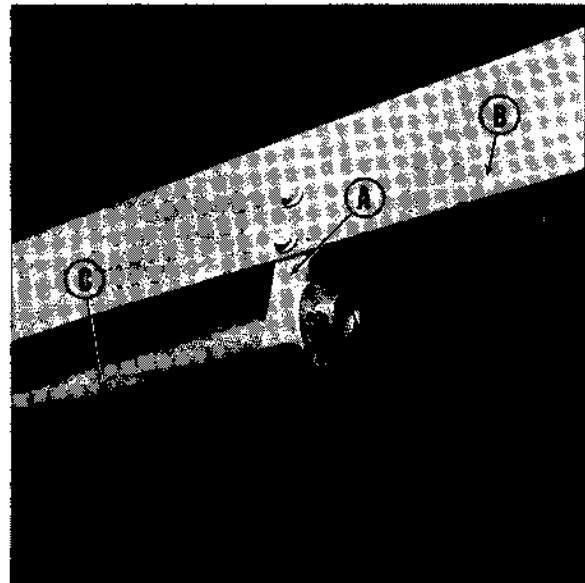

Fig. 47
15. Install either LH or RH safety cut-off support angles to the horizontal channel with two (2) 5/16-18 X 3/4" HFHSC screws and nuts. (See Fig. 47).
16. Install one end of the long pipe through the slot in the angle installed above. Place other end of pipe through slot in opposite support angle and secure to horizontal channel with two (2) 5/16-18 X 3/4" HFHSL screws and nuts. (See Fig. 47).
18. Install a large washer to each end of pipe and secure it with screws, nuts and lockwashers. (See Fig. 47).